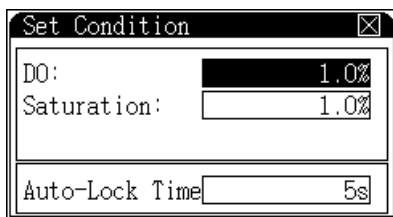

Figure 15 Setting a condition
- 4 The **Set Condition** screen appears on the display. See Figure 15.